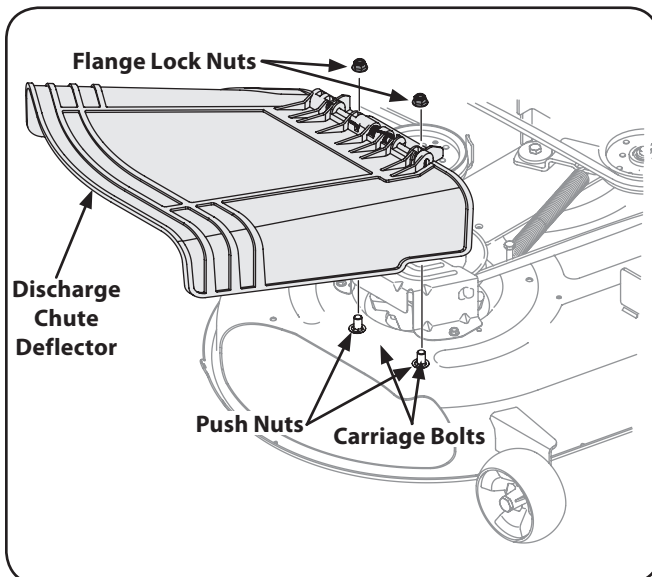

Figure 3-4
3. Install the discharge chute deflector using the carriage bolts, push nuts and flange lock nuts as shown in Figure 3-4 and securely tighten the hardware.